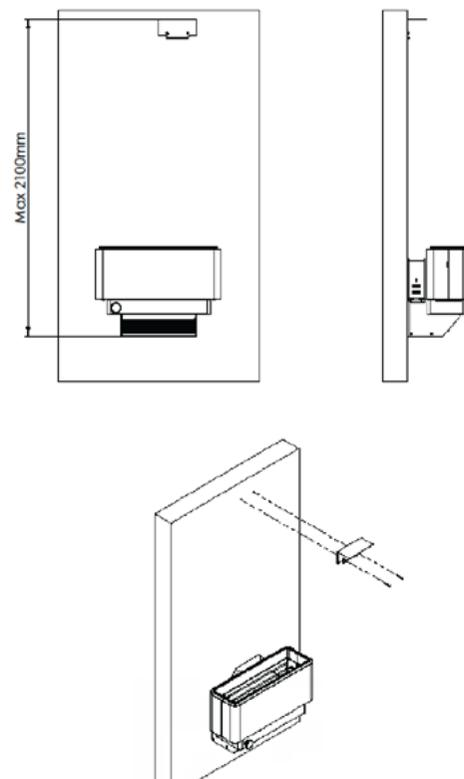

Figure 3.7: Fitting and fastening the flue cap
3.2.6. Attach the flue cap under the sauna room ceiling using two 5 mm bolts (figure 3.7). NB! Make sure that the flue cap is aligned with the flue opening in the flue socket!